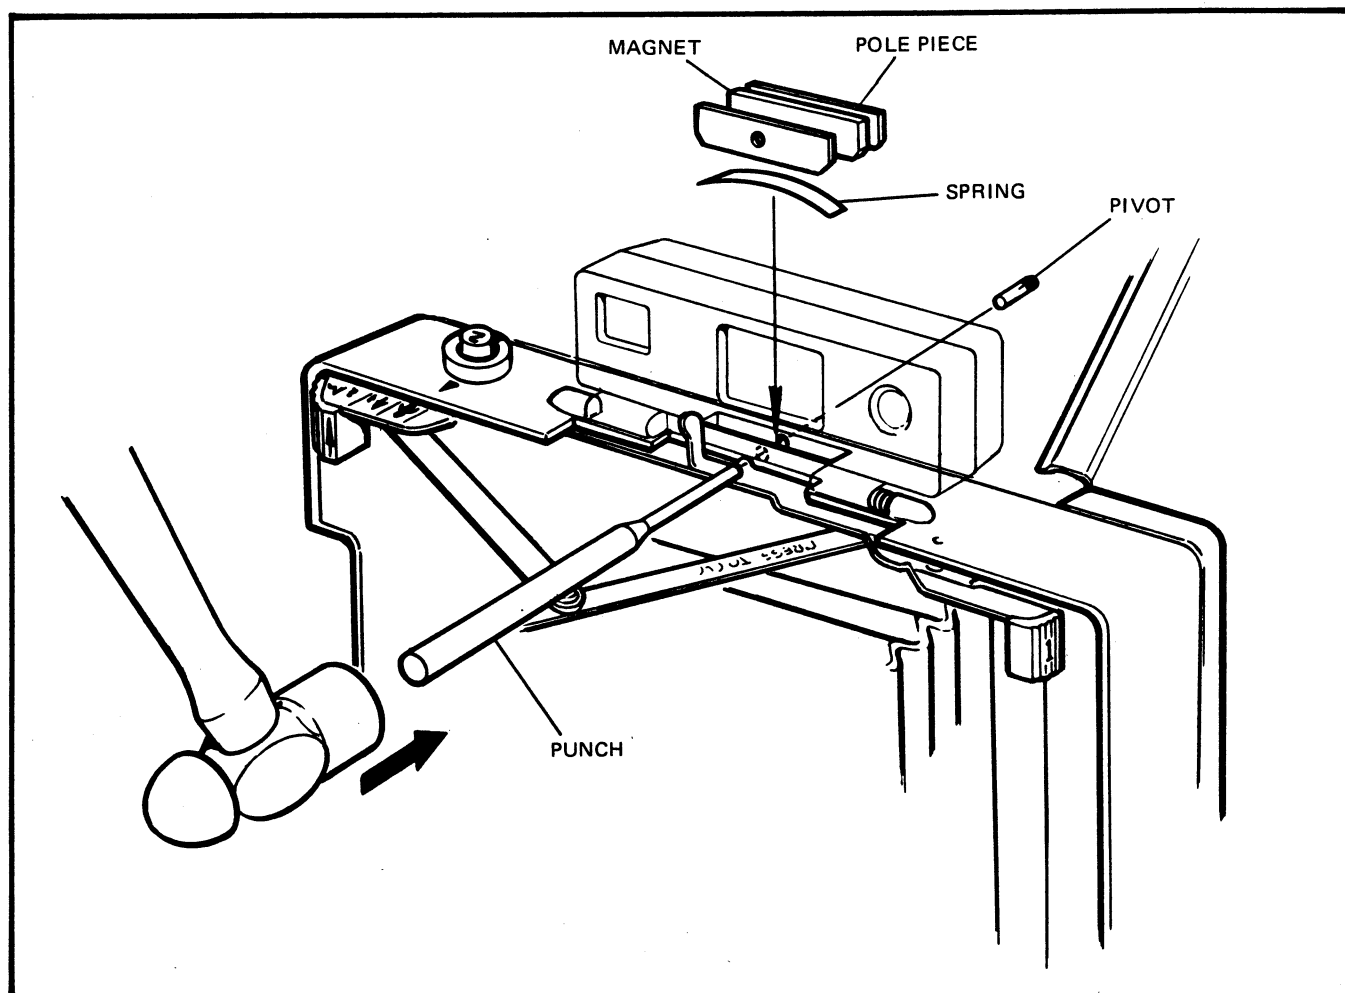

FIG. 5.45 DRIVING OUT THE MAGNET PIVOT
2. Using a 1/16th inch drive pin punch, tap out the magnet pivot as shown in Figure 5-45.
NOTE: If you have difficulty making a good topside adjustment, check the RF/VF magnet. On some cameras the magnet pivot (Figure 5-45) has a slotted head which can be turned, changing the position of the magnet. Doing this may help in bringing in topside.